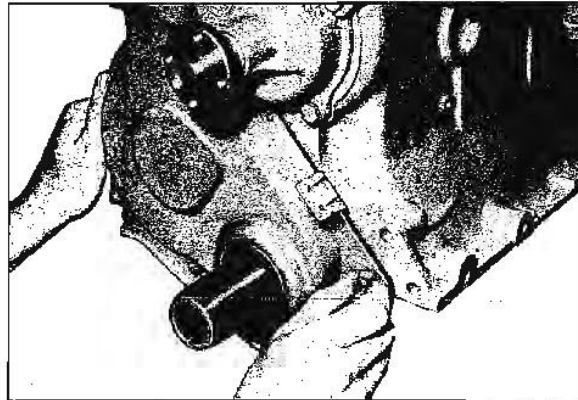

Fig. 6-40 Installing Timing Gear Cover
4. Install cover over centering tool (Fig. 6-40) and install cover screws. Torque screws to 8 to 8 ft. lbs. Remove centering tool.